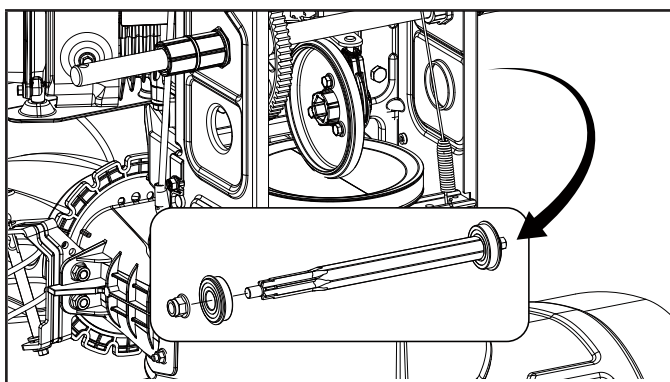

Figure 46
5. Tap the shaft end to dislodge the ball bearing from the right side of the frame. Slide out the hex shaft. Make sure all pieces shown are accounted for (Fig. 46).